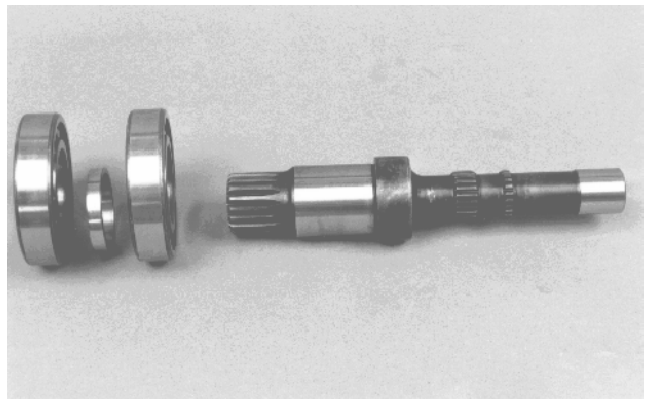

Figure 52
13. Press motor shaft out of the bearings and spacer (Fig. 52).